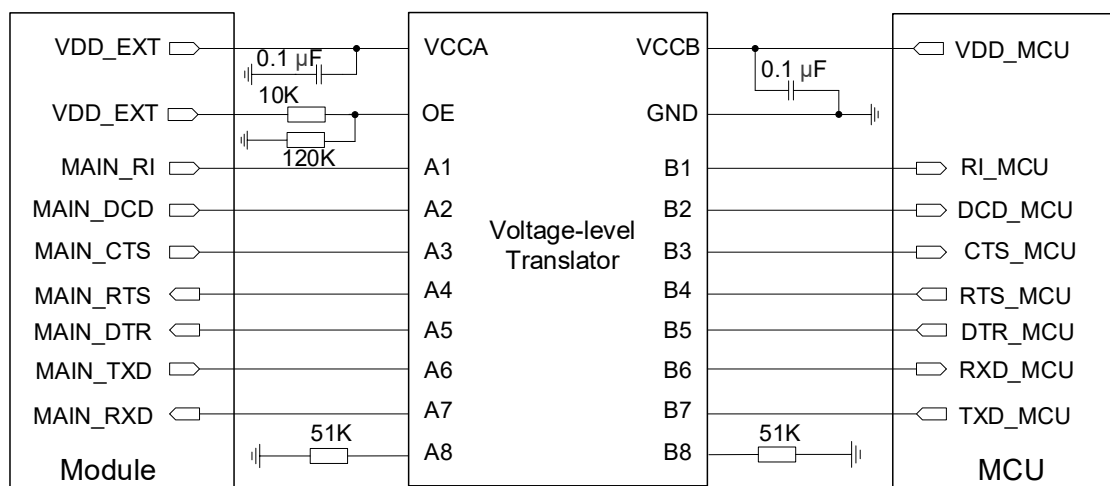
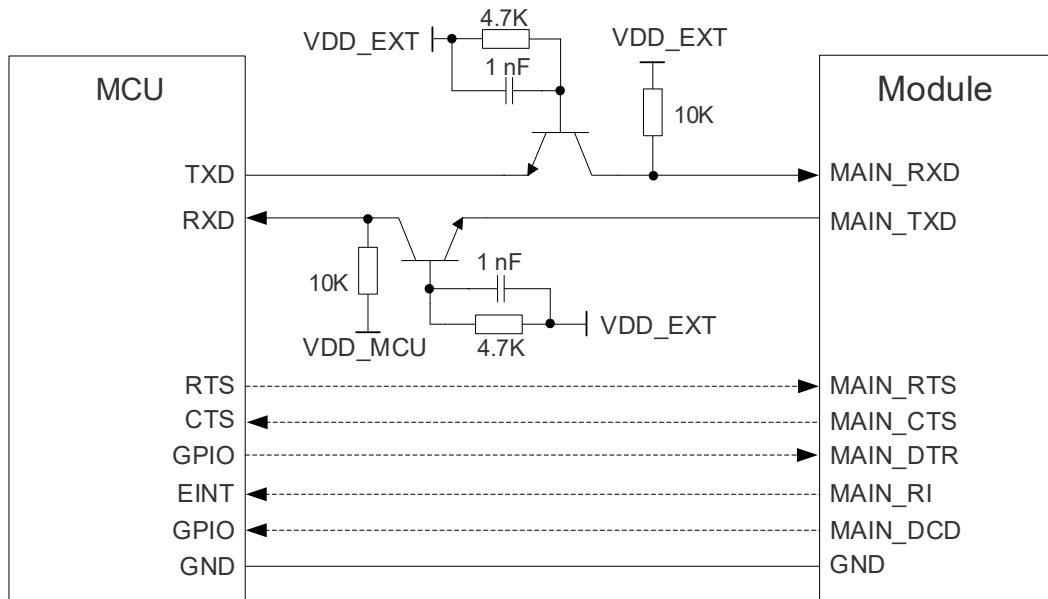

Figure 21: Reference Design of UART Interface with a Voltage-level Translator (Main UART)
Figure 22: Reference Design of UART Interface with Transistor Level-shifting Circuit (Main UART)
4. The level-shifting circuits (**Figure 21** and **Figure 22**) take the main UART as an example. The circuits of the debug UART and auxiliary UART are connected in the same way as the main UART.